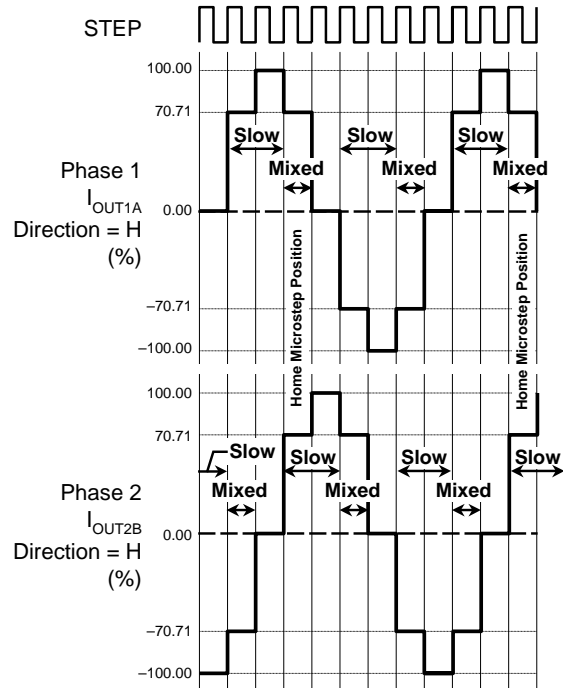

Figure 3. Decay Modes for Half-Step Increments
**Mixed Decay Operation.** The bridge can operate in Mixed Decay mode, depending on the step sequence, as shown in figures 3 thru 5. As the trip point is reached, the A3984 initially goes into a fast decay mode for 31.25% of the off-time,  $t_{\text{OFF}}$ . After that, it switches to Slow Decay mode for the remainder of  $t_{\text{OFF}}$ .